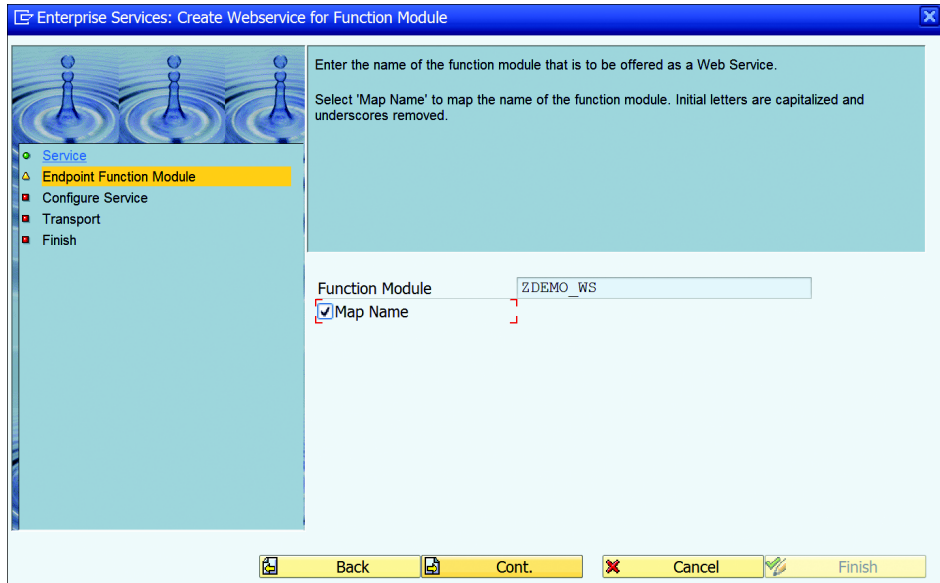

Figure 19.83 Endpoint Function Module
- In the next step, enter the name of the function module that should be offered as a web service. Because you initiated the wizard from the function module, the function module name should be prefilled. Select the `MAP NAME` checkbox (see Figure 19.83) to remove underscores in the function name and capitalize the first letter in each word (i.e., set it in camel case).